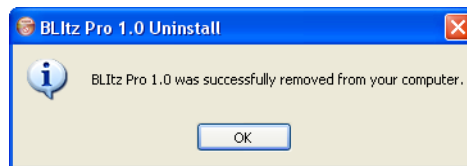

Figure 3-14: Confirmation of BLItz Pro Software Removal
2. Click **Yes** to confirm the removal of the BLItz Pro software and all of its contents. Another prompt displays confirming the removal (Figure 3-14).